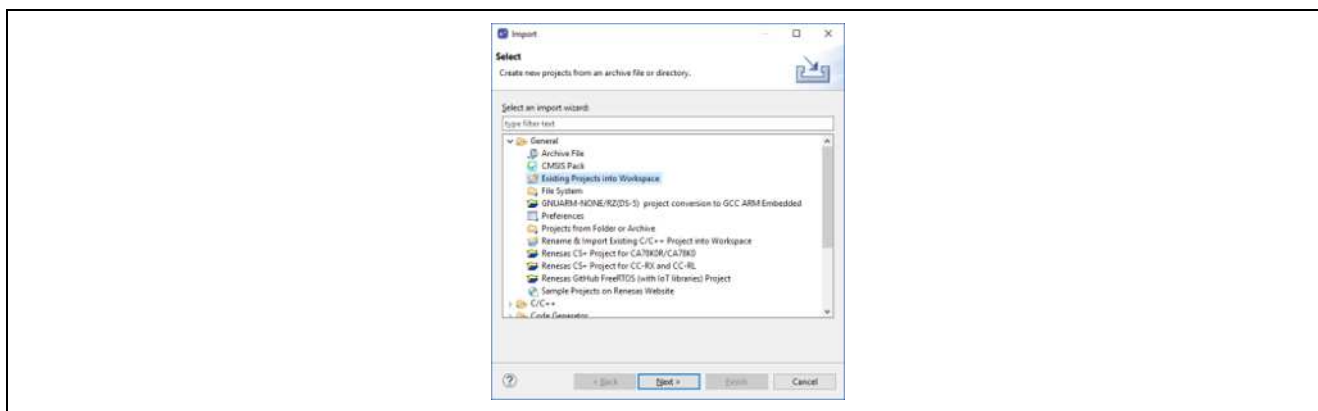

Figure 4-3. Import sample project (1)
4. Double-click **General** and select **Existing Projects into Workspace** as shown in Figure 4-3: